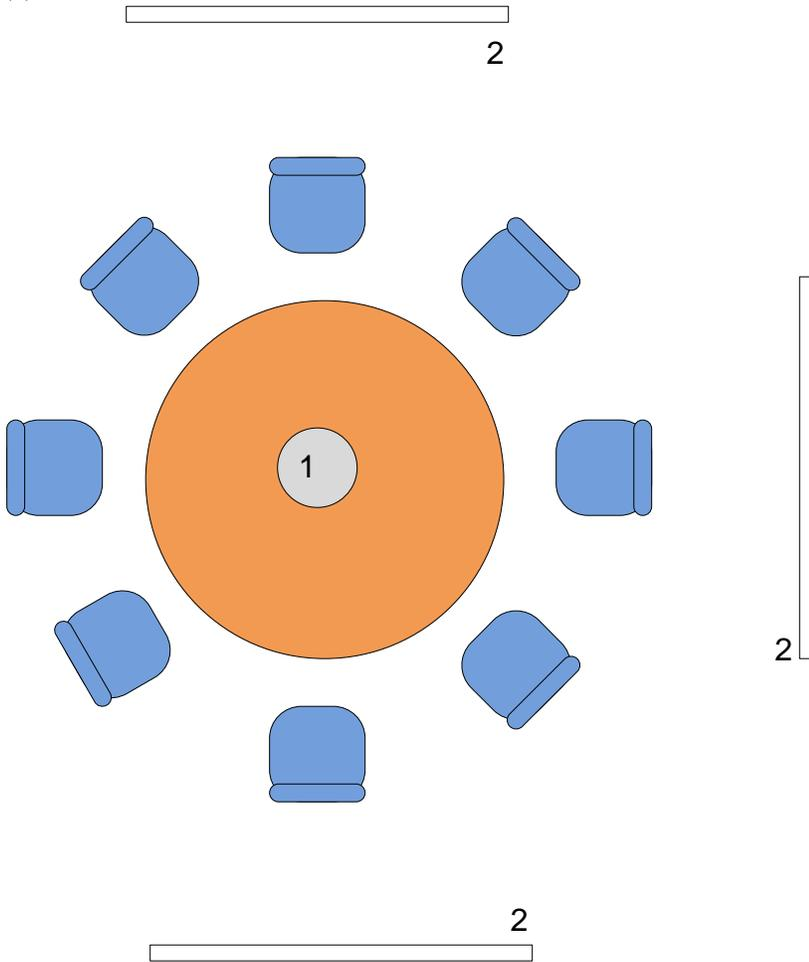

Figure 7. Circular table with multiple display devices
Figure 7 below shows a configuration with the Polycom CX5000 device (1) and three display devices (2). The circular table is 5 feet in diameter.